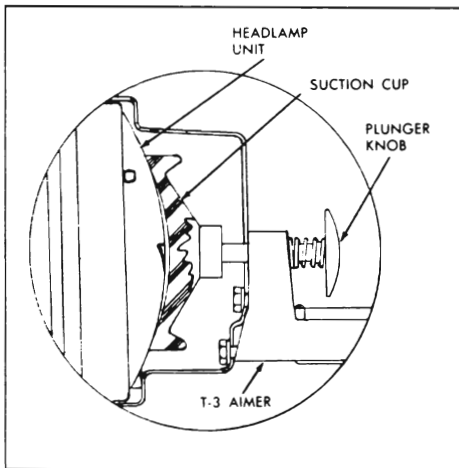

Figure 10-55—Attaching Aimer
4. Secure Aimer to each headlamp unit by pressing plunger knob firmly. See Figure 10-55. Rotate arm to approximately horizontal position.